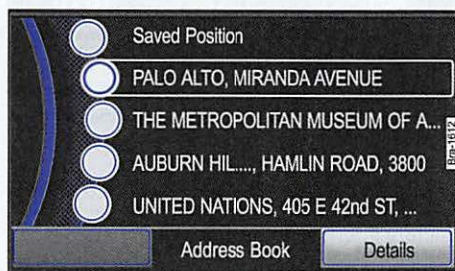

Fig. 58 Destination memory with manually stored destinations.
- Select the **Saved Position** entry in the **Dest. Memory** ⇒ **fig. 58** and press the **Details** function button.